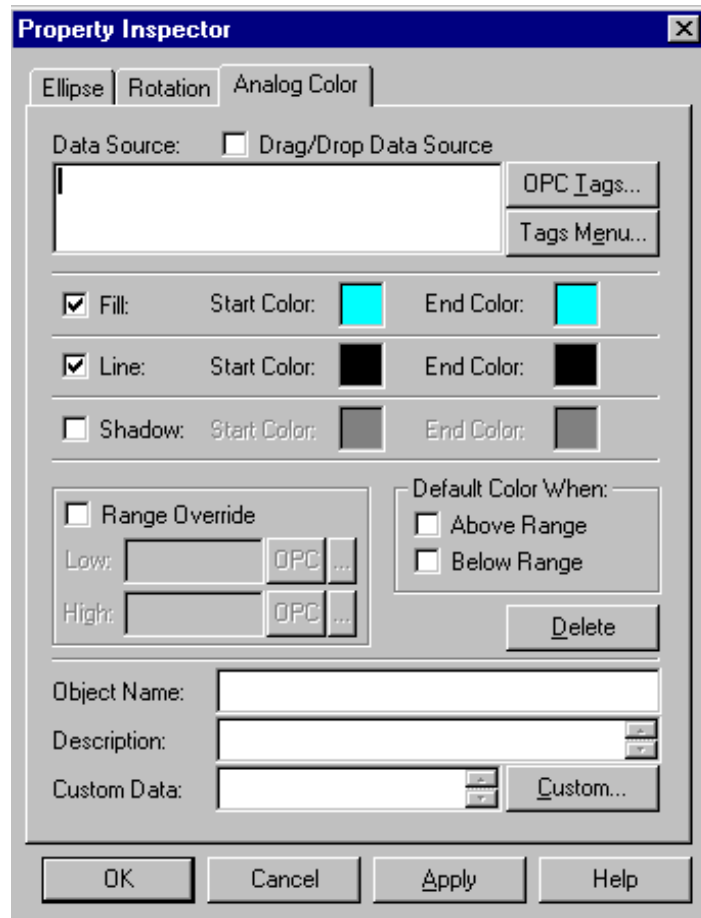

Figure 11-8: Property Inspector Dialog Box - Analog Color Tab
2. On the Dynamics menu, select Actions > Analog Color. The Property Inspector dialog box appears with the Analog Color tab (Figure 11-8).